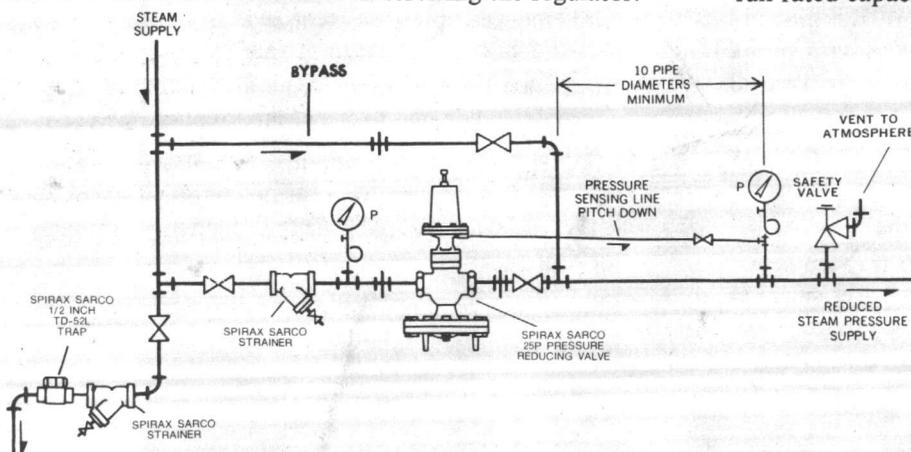

FIG. 1—Essentials of a pressure reducing station are shown here diagrammatically.
1. Typical hookup sketches as shown in Figs. 1 and 2 will aid in planning a correct installation.
6. Valve should always be installed in a horizontal position. (See Figs. 1 and 2.)
2. Connect the sensing line to a straight portion of the piping 10 pipe diameters from nearest fitting downstream from the valve and approximately 1 foot from elbows, tees, valves and other restrictions. (See Figs. 1 and 2.)
1. A bypass connection, as shown in Figs. 1 and 2, is recommended so that the valve can be serviced without shutting down the equipment.
1. To insure proper operation of the valve and avoid premature wear, it is recommended that a 1/2" Spirax Sarco Thermodynamic Steam Trap be installed on the steam supply line. (See Figs. 1 and 2.)